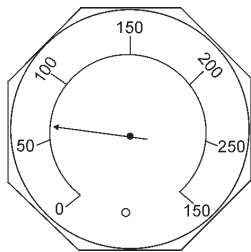

**Figure 24. Volume Control**
7. Turn the Volume Control (Figure 24), **lock nut** counterclockwise (CCW) to release the volume control knob.